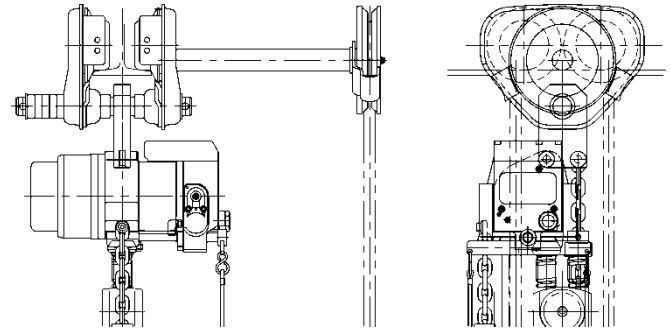

Figure 3-21 Lug mount on Geared TS2 Extended Hand Wheel
- 1) Refer to **Figure 3-21**.
- 3.3.4 Standard configuration for a TCR/S/K/L hoist is lug mounted to the trolley using a TCR/K/L Suspender. As shown in **Figure 3-3** or **Figure 3-21**.